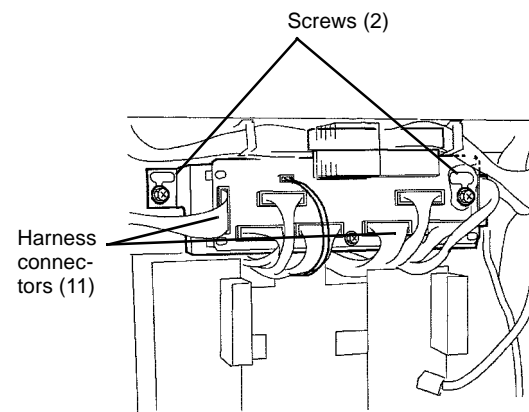

Figure 2 Removing Interface PWB
8. Remove the Interface PWB (Figure 2).
- a. Loosen screws (2).
- b. Lift the Interface PWB until harness connectors (11) can be disconnected.